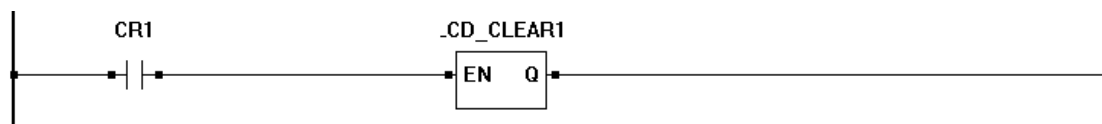

Figure 9-3
To clear the LCD display (blank all rows and columns), the LCD_CLEAR function block is used. The LCD_CLEAR will clear the display when it senses a rising edge on it's enable input (EN). Figure 9-3 shows an example program using the LCD_CLEAR function block.